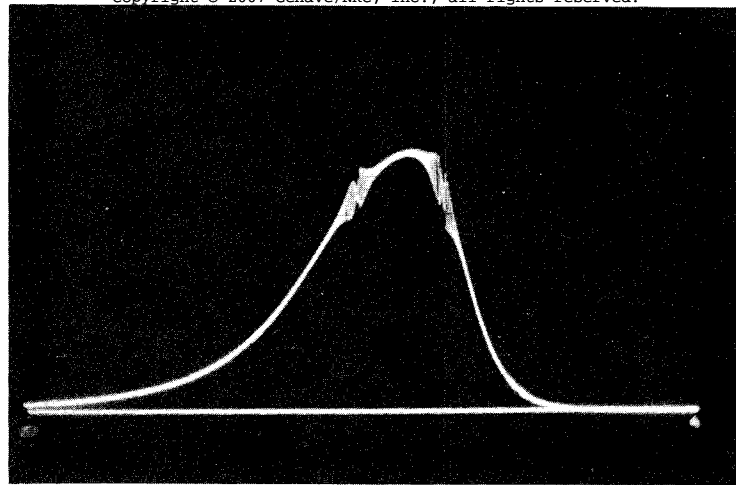

Figure 4-4-3
5. Adjust C102, C106, C107, C109, and C110 for maximum overall response with an approximate 1 MHz bandpass similar to that shown in Figure 4-4-3.